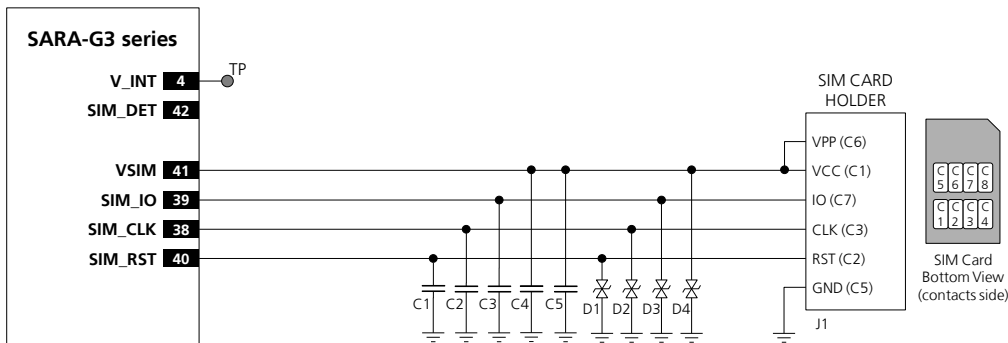
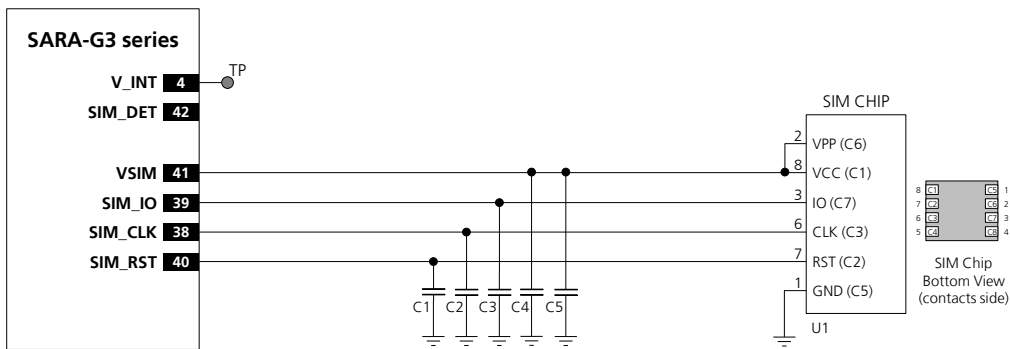
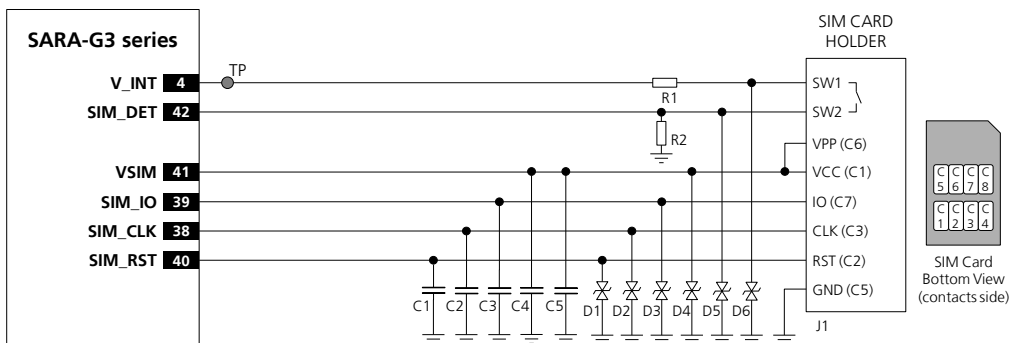
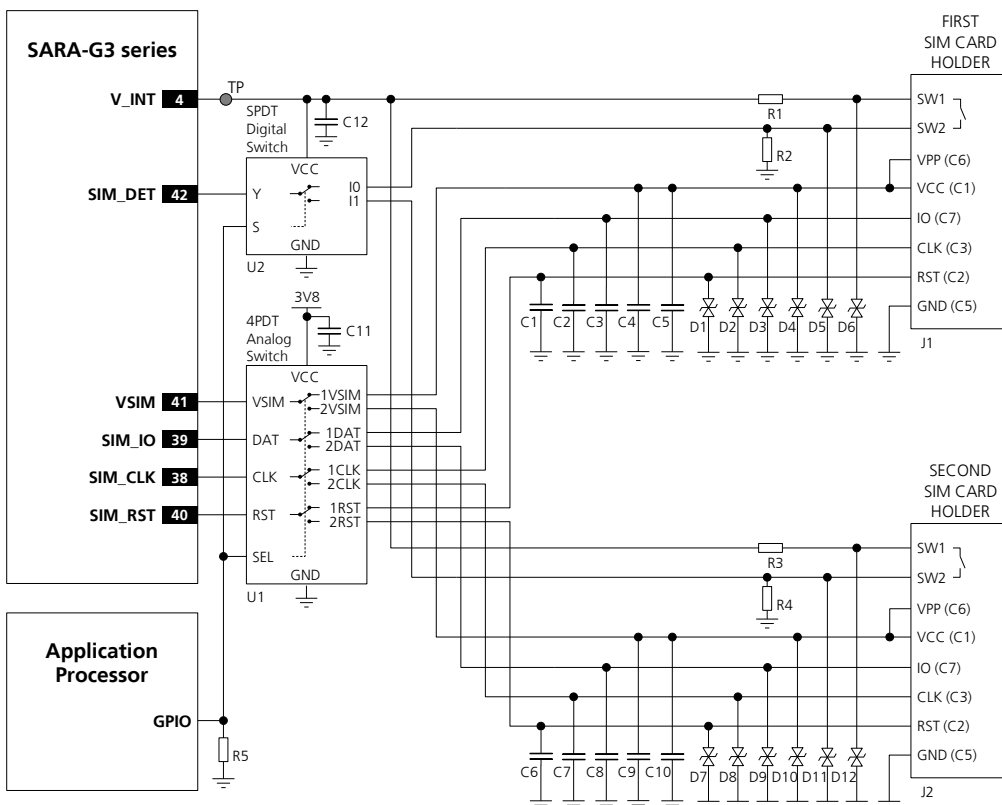

Figure 43: Application circuit for the connection to a single removable SIM card, with SIM detection not implemented
Figure 44: Application circuit for the connection to a single solderable SIM chip, with SIM detection not implemented
Figure 45: Application circuit for the connection to a single removable SIM card, with SIM detection implemented
Figure 46: Application circuit for the connection to two removable SIM cards, with SIM detection implemented
A removable SIM card placed in a SIM card holder must be connected the SIM card interface of SARA-G3 modules as described in Figure 43, where the optional SIM detection feature is not implemented (refer to the circuit described in Figure 45 if the SIM detection feature is not required).
A solderable SIM chip (M2M UICC Form Factor) must be connected the SIM card interface of SARA-G3 modules as described in Figure 44, where the optional SIM detection feature is not implemented (refer to the circuit described in Figure 45 if the SIM detection feature is not required).
A removable SIM card placed in a SIM card holder must be connected to the SIM card interface of SARA-G3 modules as described in Figure 45, where the optional SIM card detection feature is implemented.
- Connect one pin of the mechanical switch integrated in the SIM connector (e.g. the SW2 pin as described in Figure 45) to the **SIM_DET** input pin of the module
- Connect the other pin of the mechanical switch integrated in the SIM connector (e.g. the SW1 pin as described in Figure 45) to the **V_INT** 1.8 V supply output of the module by means of a strong (e.g. 1 kΩ) pull-up resistor, as the R1 resistor in Figure 45
- Provide a weak (e.g. 470 kΩ) pull-down resistor at the SIM detection line, as the R2 resistor in Figure 45
Two removable SIM card placed in two different SIM card holders must be connected to the SIM card interface of SARA-G3 modules as described in Figure 46, providing also the SIM card detection feature.
SARA-G3 modules do not support the usage of two SIM at the same time, but two SIM can be populated on the application board providing a proper switch to connect only the first or only the second SIM per time to the SIM card interface of the SARA-G3 modules as described in Figure 46.
In the application circuit represented in Figure 46, the application processor must drive the SIM switch using its own GPIO before the module boot, to properly select the SIM that is used after the module boot.
If the SIM detection feature is not required by the custom application, the related detection circuit described in Figure 46 can be not implemented in the dual SIM connection circuit, leaving **SIM_DET** pin not connected.
The dual SIM connection circuit described in Figure 46 can be implemented for SIM chips as well, providing proper connection between SIM switch and SIM chip as described in Figure 44.
If it is required to switch between more than two SIM, a circuit similar to the one described in Figure 46 can be implemented: for example, in case of four SIM circuit, using proper four-throw switches instead of the suggested double-throw switches.
- Connect one pin of the mechanical switch integrated in the two SIM connectors (e.g. the SW2 pins as described in Figure 46) to the **SIM_DET** input pin of the module by means of a proper double-throw digital switch (e.g. NXP 74LVC1G157)
- Connect the other pin of the mechanical switch integrated in the two SIM connectors (e.g. the SW1 pins as described in Figure 46) to the **V_INT** 1.8 V supply output of the module by means of a strong (e.g. 1 k Ω) pull-up resistor, as the R1 and R3 resistors in Figure 46
- Provide a weak (e.g. 470 k Ω) pull-down resistor at the SIM detection line, between the double-throw digital switch and the related SIM connector as the R2 and R4 resistors in Figure 46
In the second case, the same harmonics can be picked up and create self-interference that can reduce the sensitivity of GSM receiver channels whose carrier frequency is coincidental with harmonic frequencies: placing the RF bypass capacitors suggested in Figure 45 near the SIM connector will mitigate the problem.
In addition, since the SIM card is typically accessed by the end user, it can be subjected to ESD discharges: add adequate ESD protection as suggested in Figure 45 to protect module SIM pins near the SIM connector.